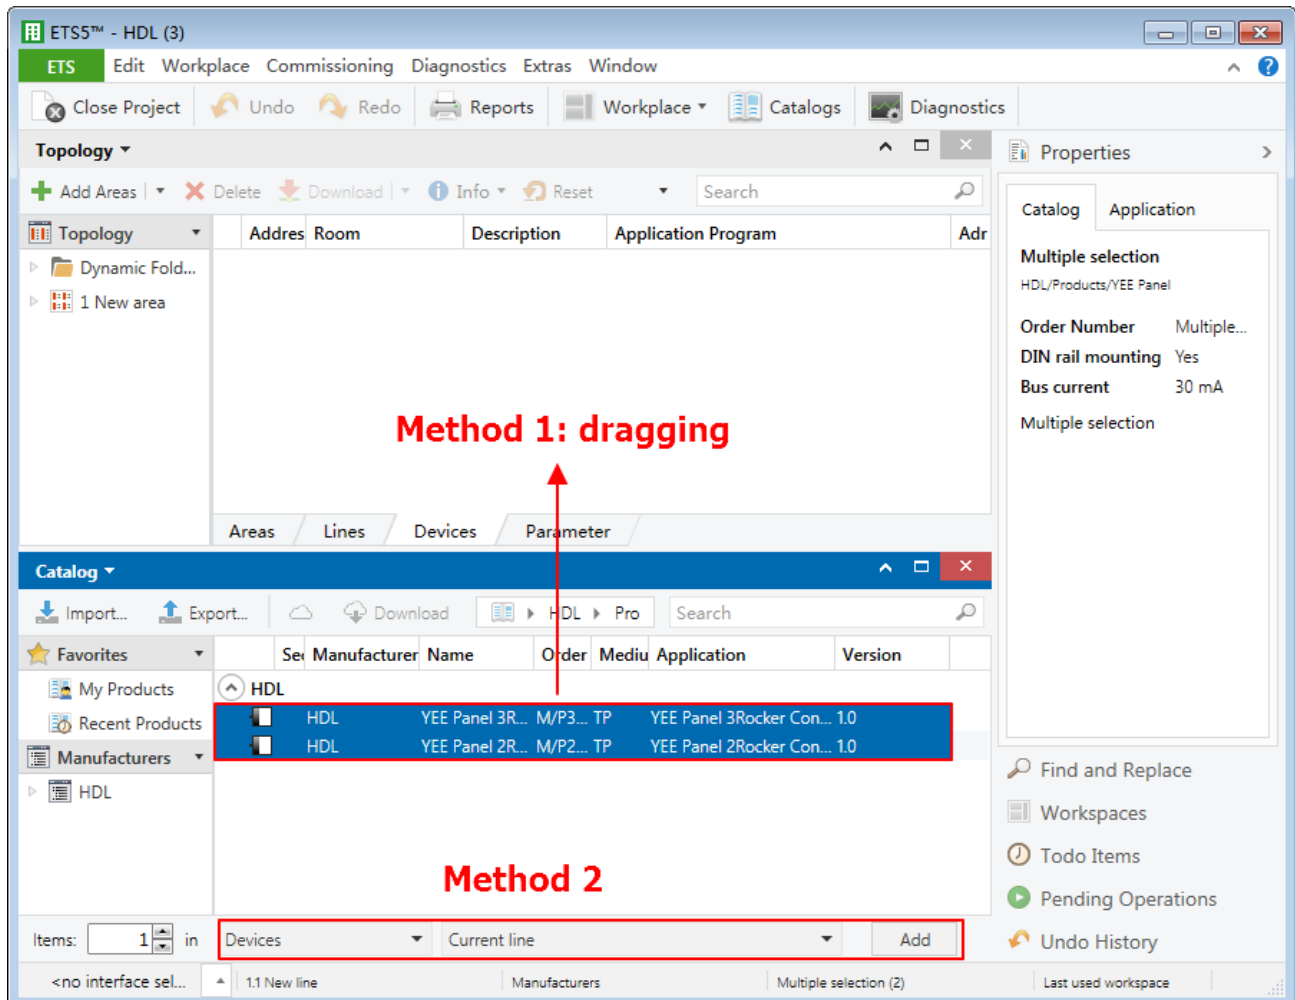

Figure 1-5 Add devices to projects (3)
- ③ As shown in Figure 1-5, click “HDL” in “Manufactures” column and select devices to be added to the project on the right. Drag devices to the above area (Method 1) or click “Add” button to add devices after clicking the location needed to add projects below (Method 2).